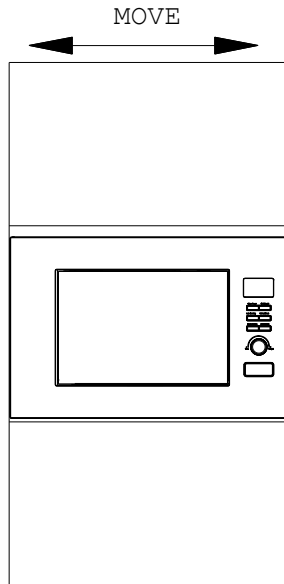

Fig.3
c) Move the product in parallel in the kitchen cabinet according to the direction of the arrow in the figure, and keep it centered. (Figure 3)